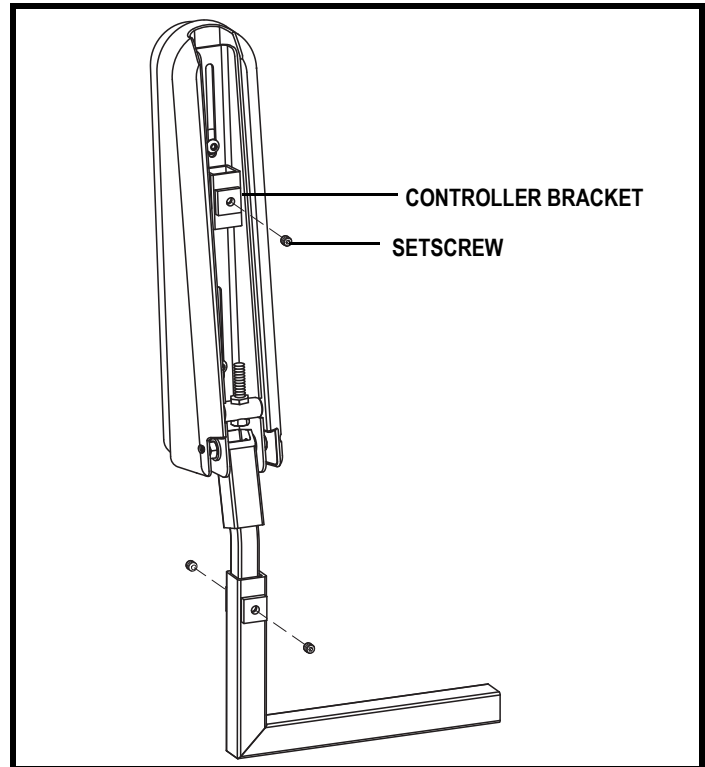

Figure 24. Underside of Armrest
2. Loosen the setscrew on the controller bracket. See figure 24.
5. Loosen the setscrew on the underside of each armrest. **See figure 24.**